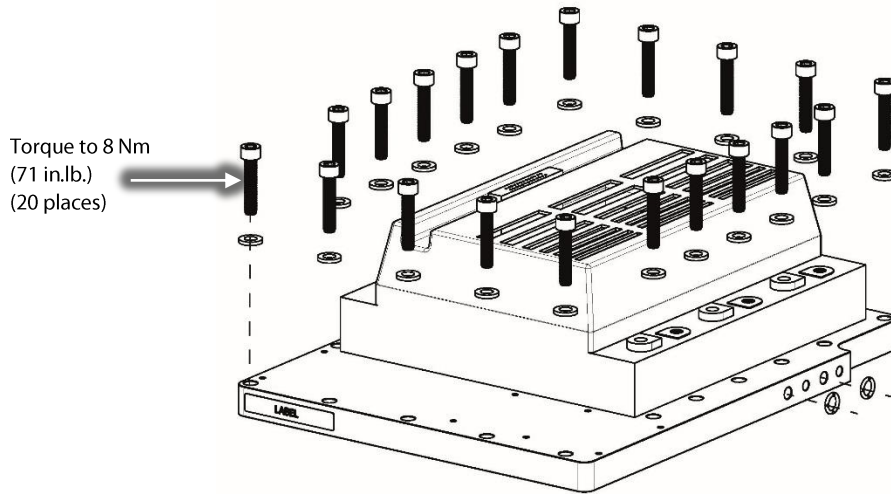
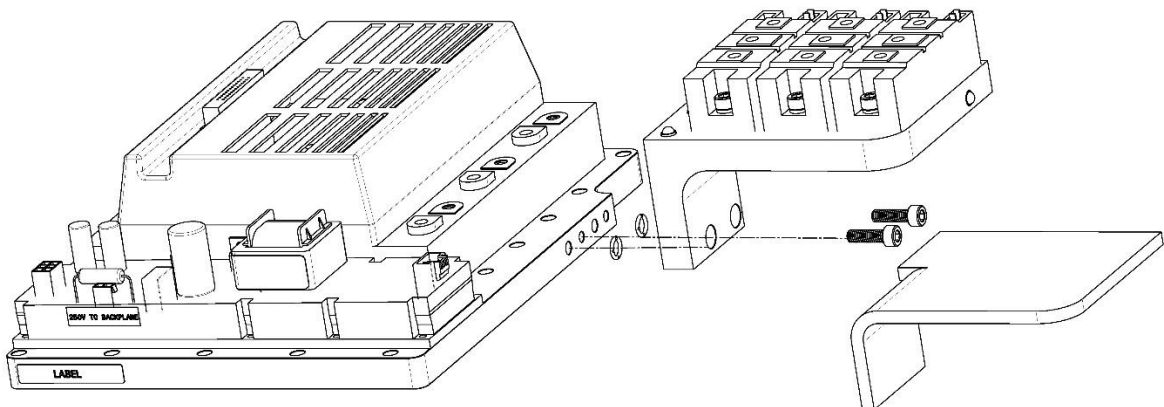

Figure 20 – Inverter Removal
Figure 21 – SCR Cooling Manifold Removal
35. Remove the fasteners that secure the Inverter to the compressor main housing. Refer to Figure 20 (Inverter Removal).
36. Carefully, remove the Inverter and discard the two (2) O-rings underneath. (Note that the SCR cooling manifold will be attached to the Inverter cooling plate.)
37. Carefully remove the SCR cooling manifold foam insulation in order to gain access to the two (2) screws shown in Figure 20 (SCR Cooling Manifold). Retain for use with the new Inverter assembly.
**NOTE:** Do not completely remove the foam insulation, only pull back what is needed to access the two (2) screws. Use caution when removing the portion of insulation as it could tear when separating from the SCR Cooling Manifold.
38. Remove the two (2) screws indicated in Figure 21 (SCR Cooling Manifold) and carefully remove the SCR Cooling Manifold. Retain for use with the new Inverter assembly.